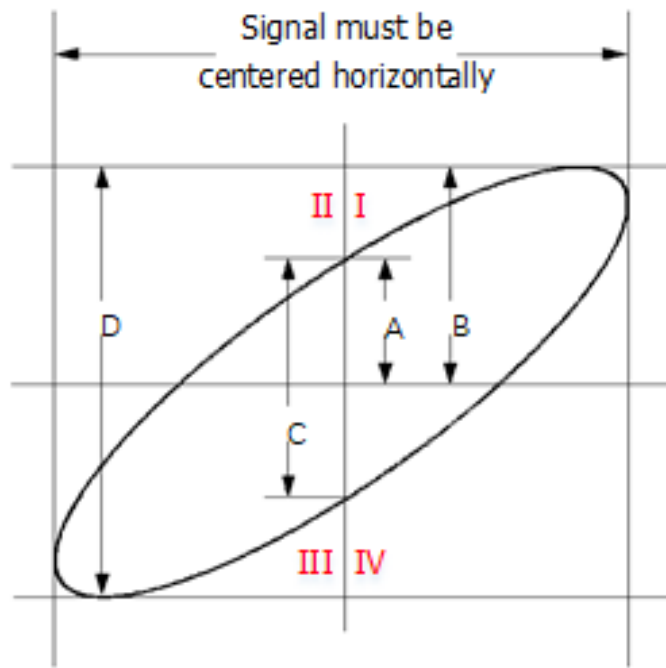

Figure 7.1 Measurement Schematic Diagram of Phase Deviation
4. Observe the measurement result shown in the figure above. According to the measurement schematic diagram of the phase deviation (as shown in *Figure 7.1*), $A/B(C/D)=1$. Thus, the phase deviation angle of the two channel input signals is $\theta = \pm \arcsin 1 = 90^\circ$.